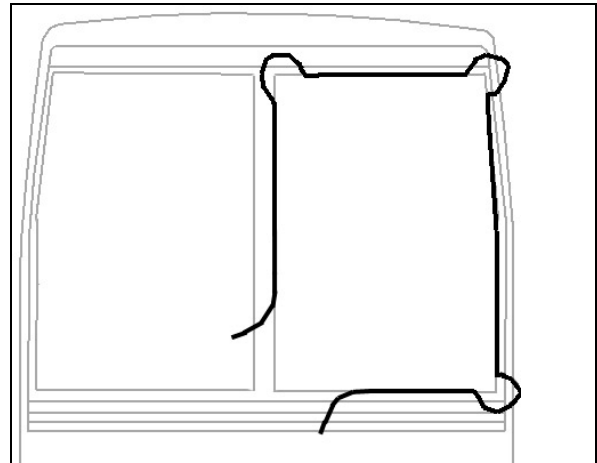

FIGURE 93: WINDSHIELD INSTALLATION USING ROPE
- Insert rope into rubber extrusion leaving enough length at each corner to make a loop. Spray soapy water onto rope and rubber extrusion (Figure 93).